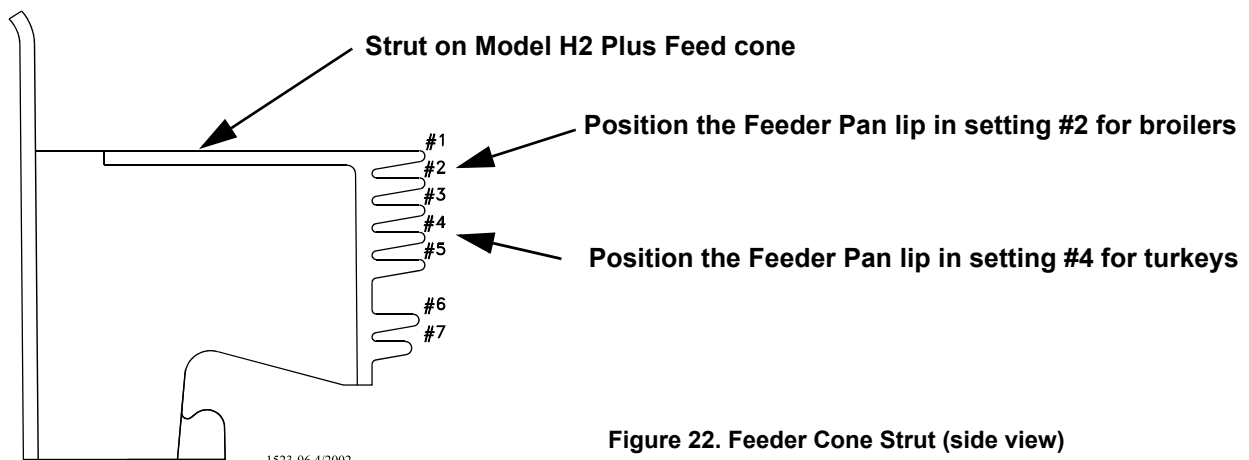

Figure 22. Feeder Cone Strut (side view)
1. Broilers: Position the lip of the feeder pan in the #2 tab of 2 of the struts. See **Figure 22**.
Turkeys: Position the lip of the feeder pan in the #4 tab of 2 of the struts. See **Figure 22**.